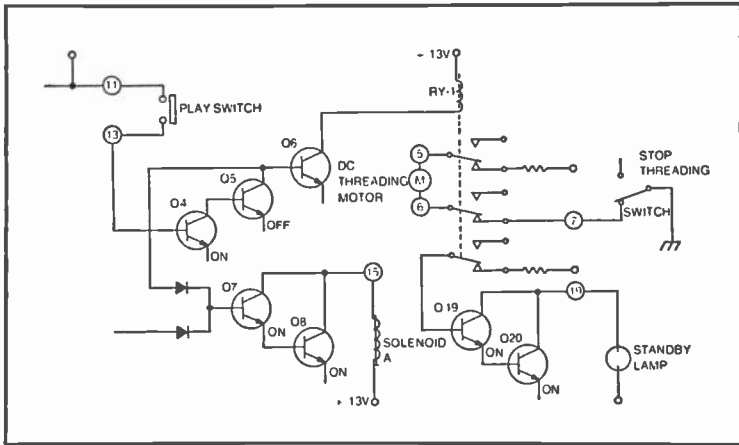

Fig. 9-20. Play control circuit, sequence 1.
- When the **play** button is pressed, Q4, Q5, and Q6 in Fig. 9-20 pull in RY-1. This starts the DC motor, which drives the threading ring and threads the tape. Simultaneously Q7 and Q8 pull in solenoid A. This locks the **play** button, releases the supply spool, and locks out the other functions except **stop**.